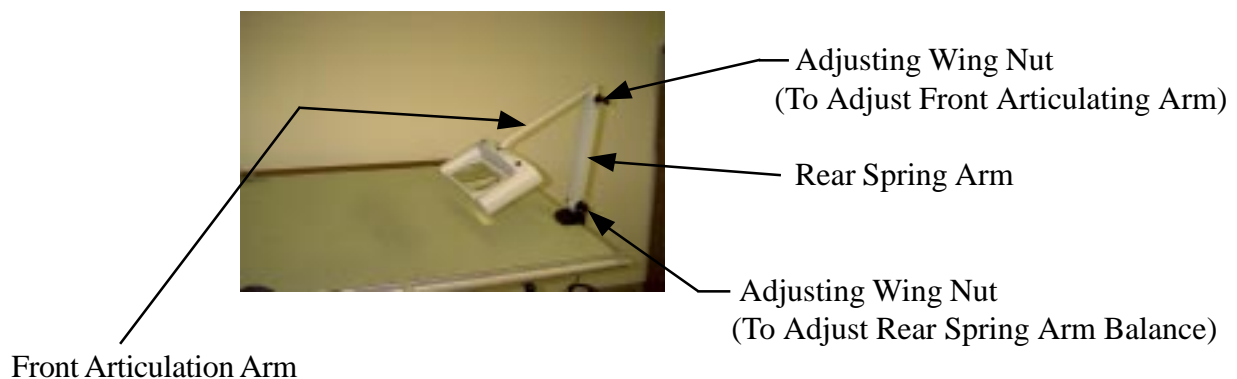

FIGURE 6
(See Figure 6) The front articulation arm can be adjusted by means of the adjusting wing nut. The articulation must be adjusted so that the light is easy to move and it should also remain in the required position. **CAUTION:** Loosen or tighten the articulation joint lightly (3 to 4 turns maximum). Turning the adjustment nut too much will disengage the relief spring and it would have to be factory reset.
1. (See Figure 6) Tilt the light fully back.